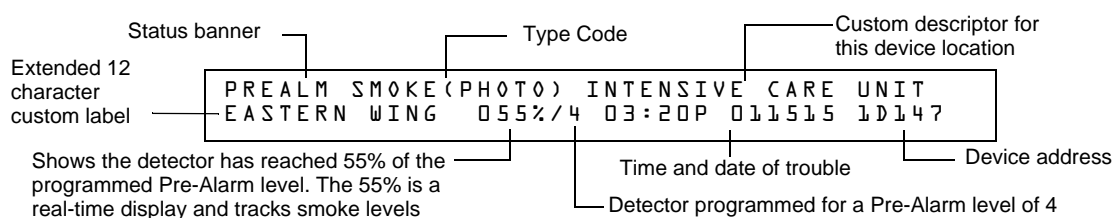

Figure 3.15 Sample of an Alert Pre-Alarm Message
- Displays a pre alarm status banner, the Type Code of the detector, and the Pre-Alarm level (Alert or Action) on the LCD display, along with information specific to the device as shown in Figure 3.15.